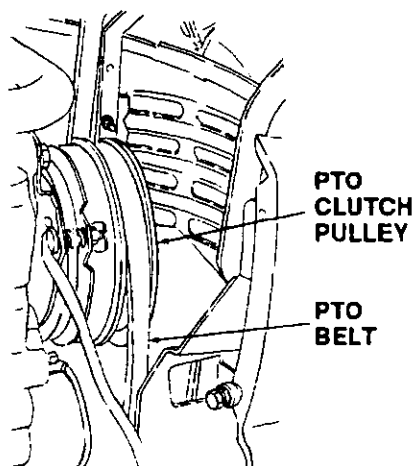

Figure 35
12. Remove forward end of the PTO belt from engine PTO clutch pulley. (Refer to Figure 35.)